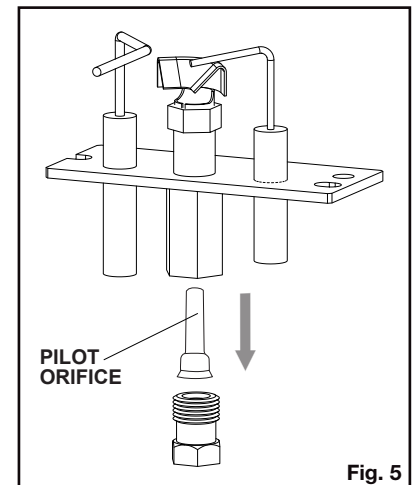

Fig. 5
- ☐ 9. Remove the 2 screws securing the pilot shield and pilot. Using a backup wrench, remove the pilot tube from underneath the pilot. Replace the pilot orifice with the one supplied and reinstall the pilot tube (Fig. 5). Reinstall the pilot to the bracket with the shield.